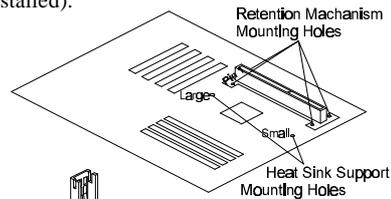

Figure 2-6
1. Finds out the Universal Retention Mechanism (URM) Mounting Holes of Slot1 on HOT-661/P main board. (Refer to Figure 2-6)